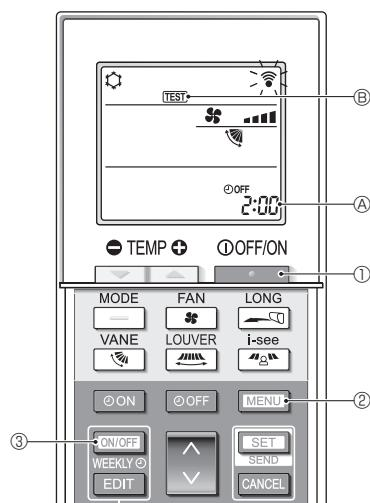

Fig. 7-5
7.2.2. Using wireless remote controller (Fig. 7-5)
- Press the [] button ① to stop the air conditioner.
- If the weekly timer is enabled (WEEKLY is on), press the [ON/OFF] button ③ to disable it (WEEKLY is off).
- Press the [MENU] button ② for 5 seconds.
- Press the [MENU] button ②.
- [TEST] ② comes on and the unit enters the test run mode.